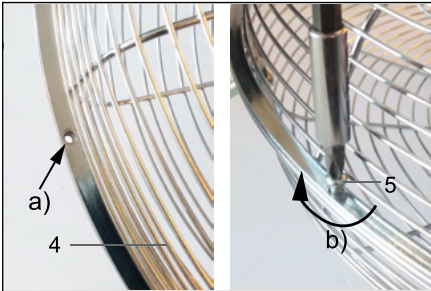

Fig.10: Mounting protective net
*The holes of both halves must be on top of each other. See Fig. 10 a).*
- First insert all Phillips-heads screws (5) through the holes provided in both halves of the net.
- Then tighten the screws clockwise in diagonal order, Fig. 10 b).